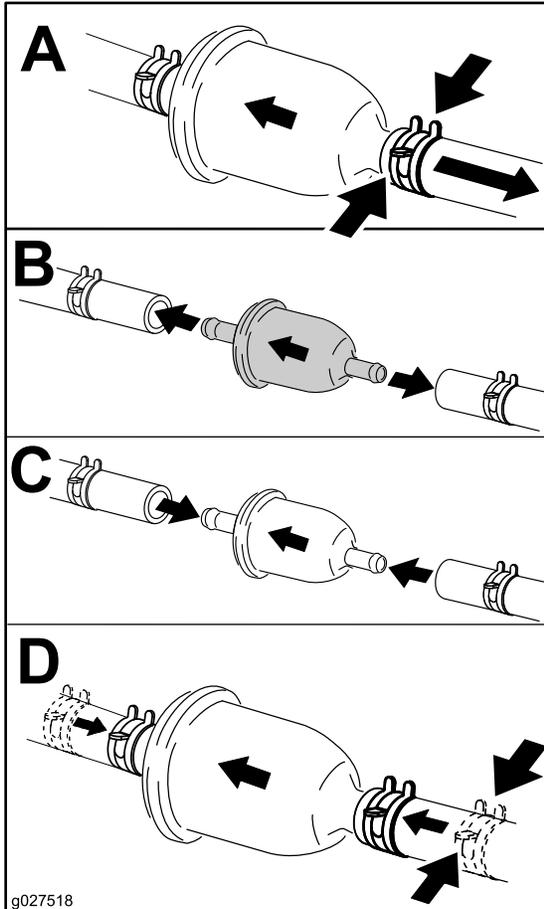

Figure 44
3. Replace the filter (Figure 44).